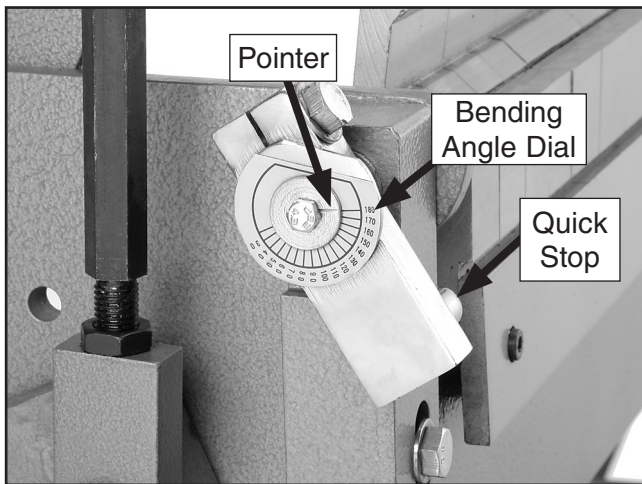

Figure 13. Setting adjustable stop.
2. Loosen the hex bolt on the quick stop and rotate it down until it rests against the bending leaf, as shown in **Figure 13**.